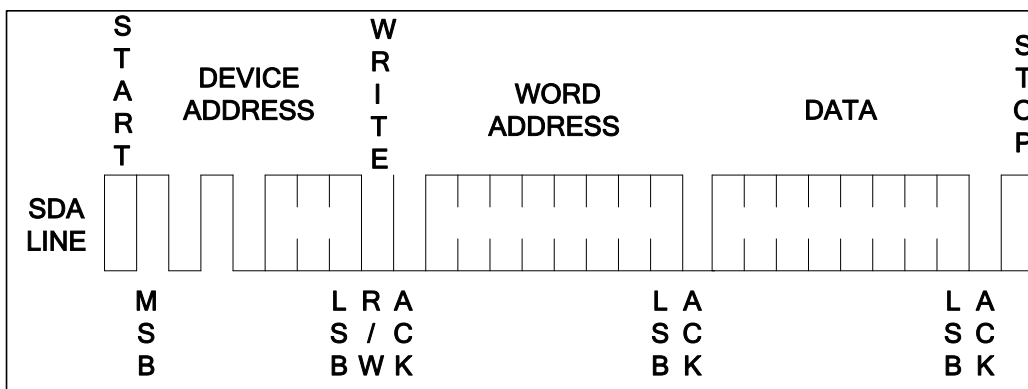

Figure 6. Byte Write
**BYTE WRITE:** A write operation requires an 11-bit data word address following the device address word and acknowledgment (Figure 5). Upon receipt of this address, the EEPROM will again respond with a "0" and then clock in the first 8-bit data word. Following receipt of the 8-bit data word, the EEPROM will output a "0" and the addressing device, such as a microcontroller, must terminate the write sequence with a stop condition. At this time the EEPROM enters an internally timed write cycle, tWR, to the nonvolatile memory. All inputs are disabled during this write cycle and the EEPROM will not respond until the write is complete (see Figure 6).